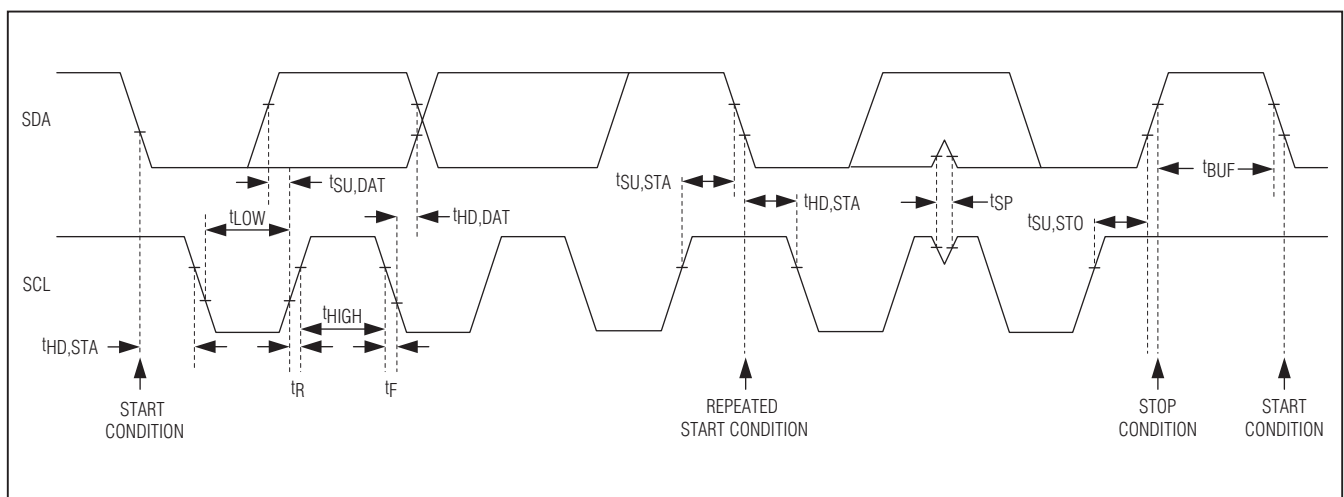

Figure 3. 2-Wire Interface Timing Diagram
The IC features an I²C/SMBus™-compatible, 2-wire serial interface consisting of a serial-data line (SDA) and a serial-clock line (SCL). SDA and SCL facilitate communication between the IC and the master at clock rates up to 400kHz. Figure 3 shows the 2-wire interface timing diagram. The master generates SCL and initiates data transfer on the bus. A master device writes data to the IC by transmitting the proper slave address followed by the register address and then the data word. Each transmit sequence is framed by a START (S) or REPEATED START (Sr) condition and a STOP (P) condition. Each word transmitted to the IC is 8 bits long and is followed by an acknowledge clock pulse. A master reading data from the IC transmits the proper slave address followed by a series of nine SCL pulses. The IC transmits data on SDA in sync with the master-generated SCL pulses. The master acknowledges receipt of each byte of data. Each read sequence is framed by a START or REPEATED START condition, a not acknowledge, and a STOP condition. SDA operates as both an input and an open-drain output. A pullup resistor, typically greater than 500Ω, is required on the SDA bus. SCL operates as only an input. A pullup resistor, typically greater than 500Ω, is required on SCL if there are multiple masters on the bus, or if the master in a single-master system has an open-drain SCL output. Series resistors in line with SDA and SCL are optional. Series resistors protect the digital inputs of the